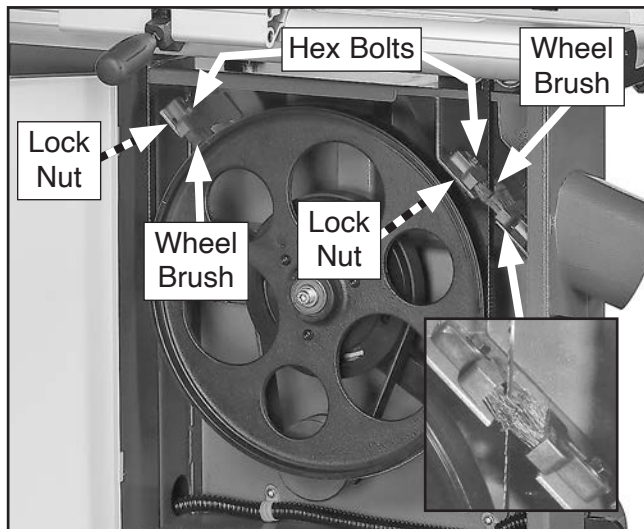

Figure 99. Location of wheel brushes.
The lower wheel has brushes (see **Figure 99**) that are designed to sweep sawdust off the tire and blade during operation. In order to work properly, the brushes must make firm contact with the tire.
3. Loosen hex bolts and lock nuts that secure wheel brushes in place (see **Figure 99**).